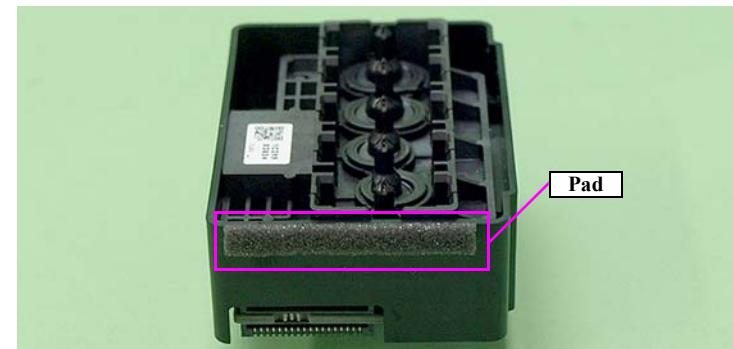

Figure 3-52. Attaching the Pad
- Confirm that the pad is attached at the position in Figure 3-52.